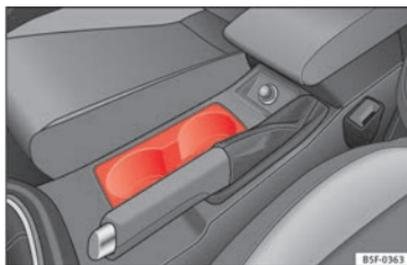

Fig. 156 Centre console: front drink holders.
- Place drinks in the holder » Fig. 156. Placement of two drinks is possible. There is also the possibility of placing larger plastic bottles in the trims of the doors.